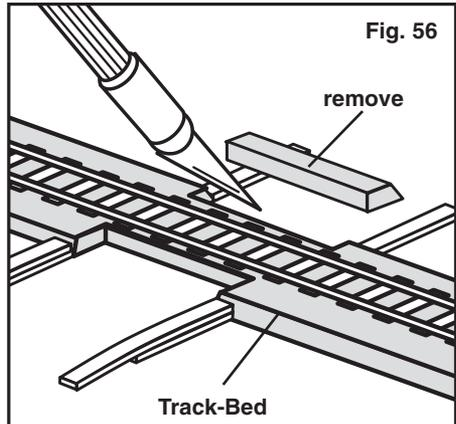

Fig. 56
1. Track-Bed will need to be removed from both sides of the track where the road crosses the track (Fig. 56). Use a hobby knife to cut out and remove this material.
2. Following the path of the roads, place strips of Paving Tape up to the track where you removed the Track-Bed. This is where the road will cross the track (Fig. 56).